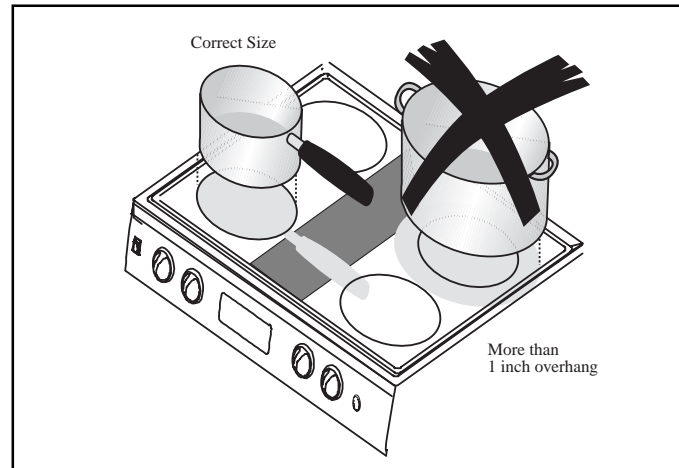

Figure 37
- See Figure 37. Use proper pan size. Do not use a pan that has a bottom smaller than element. Do not use utensils that overhang element by more than 1 inch.